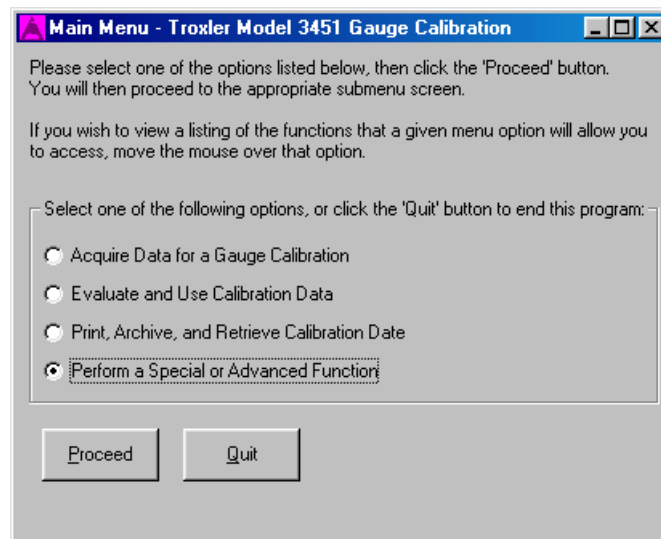

Figure 4–22. Main Menu with Option 4 Selected
7. To generate the *Calibration Accuracy Check Form*, select the **Perform a Special or Advanced Function** option on the **Main Menu**, as shown in Figure 4–22, then click the **(P)roceed** button
8. The **Special Functions Submenu** (see Figure 4–23) is now displayed. This submenu allows access to several special functions. The function to be used at this time is the first available option, **Print an Accuracy Check Form (QA Form) for gauge x**, where x is the gauge serial number for the active calibration. Select this option and click **(P)roceed**.